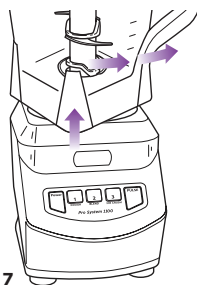

Fig. 7
- 8 To remove the container, press the power button (⏻) to turn the appliance 'Off'. Wait for the attachment to stop moving before removing. (Fig. 7)